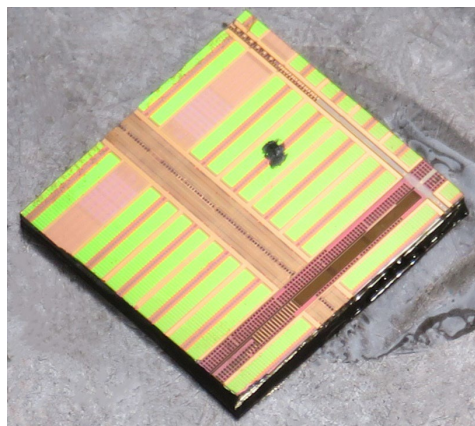

Figure 2: Sample with ROI Marked in Black
3. Locate the ROI using an inspection microscope and mark it with a fine-tipped permanent marker (*Figure 2*).